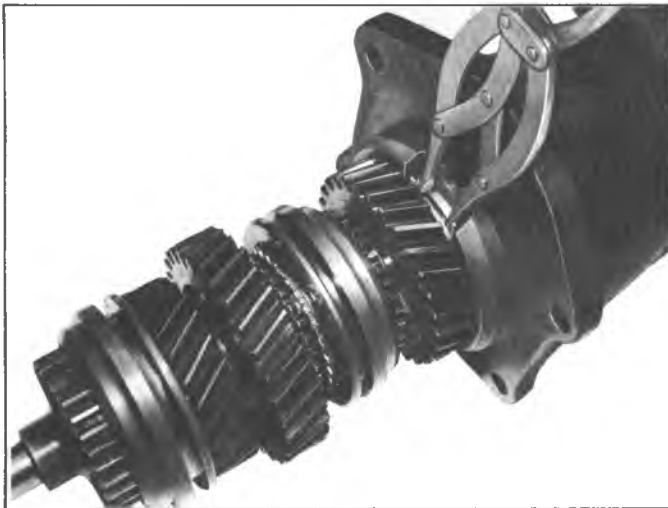

Fig. 2A--Extension to Rear Bearing Snap Ring
7. Remove drive gear, mainshaft and extension assembly together through the rear case opening. Remove clutch drive gear, needle bearings (14) and synchronizer ring from mainshaft assembly.
8. Using snap ring pliers, expand the snap ring in the extension which retains the mainshaft rear bearing (fig. 2A) and remove the extension.
4. Using snap ring pliers, expand the snap ring in the extension and assemble extension over rear of mainshaft and onto rear bearing. Seat snap ring in rear bearing groove (fig. 2A).